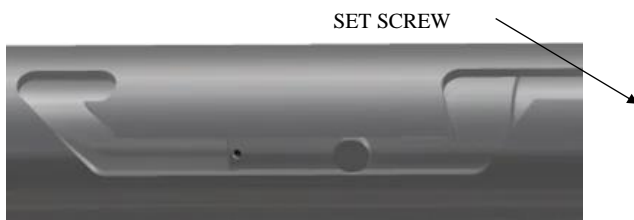

Fig. 7
K-1.17) Rotate J-body (20) as needed to position J-pin of J-pin bottom sub (23) along J-slot to access threaded holes (Fig. 7). Screw set screw (30) into J-pin bottom sub (23).